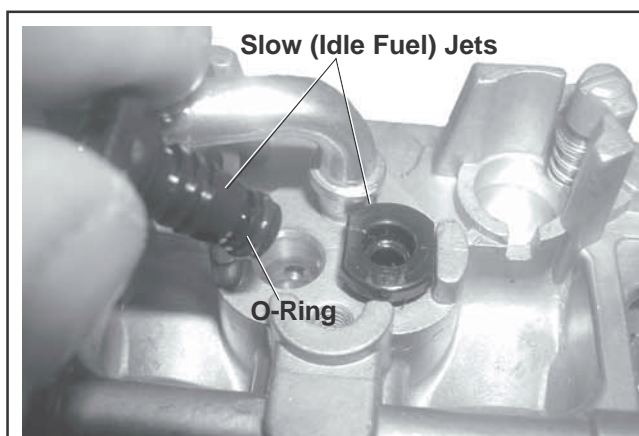

Figure 5-22. Slow Jets and O-Ring Detail.
9. Make sure the O-Ring near the bottom of each slow jet is new, or in good condition. Align and insert the two slow jets into the top of the carburetor. See Figure 5-22.